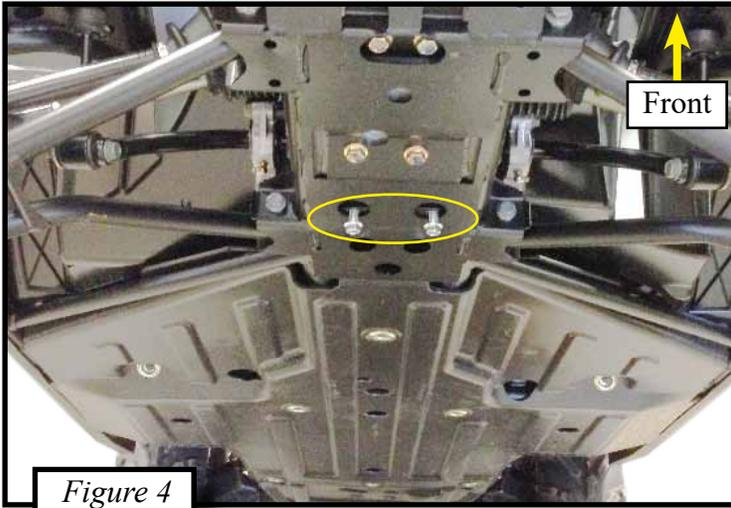

Figure 4
- Place bolt plate (3) over holes in the frame located between the rear mounts of the front a-arms as shown in Figures 4 & 5.